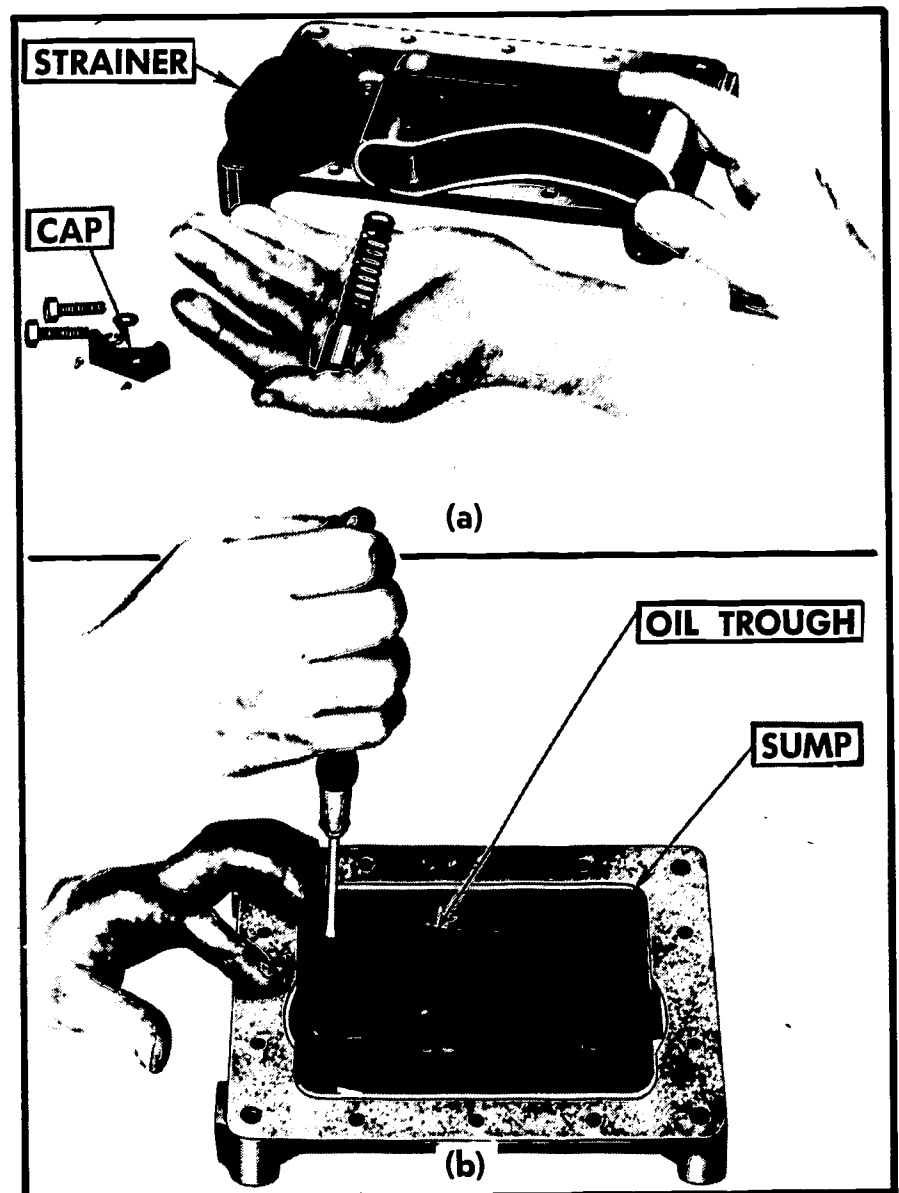

FIGURE 284. A combination oil trough for a dipper and plunger pump. (a) Pump disassembled. (b) Checking the pump for proper operation.
d. If your oil pump unit is a **non-removable barrel-and-plunger type** (Figure 284), proceed as follows:
3. *Remove the cap from the top of the oil pump (Figure 284).*